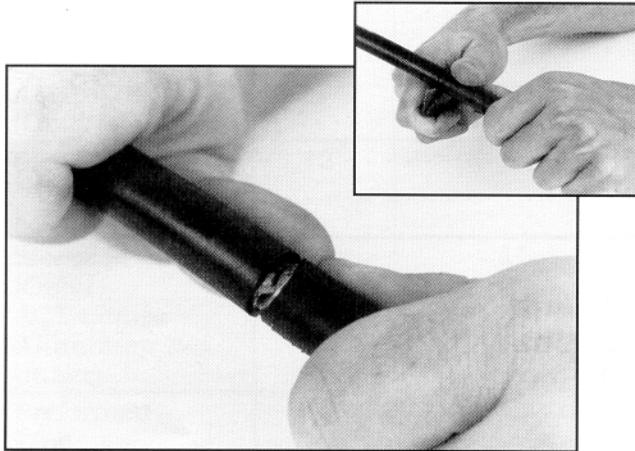

Figure 1
- 4.5 Bend the sheath gently at the cuts to separate the armor. See Figure 1.